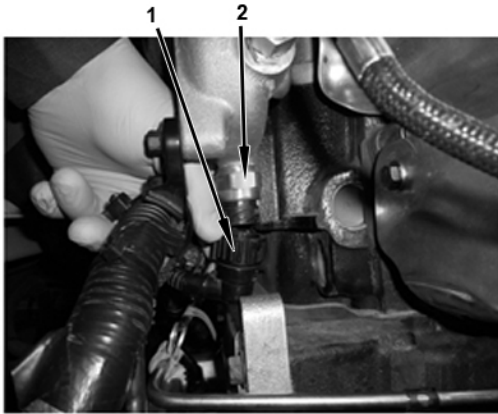

Figure 1 Engine Coolant Temperature Sensor
4. Disconnect engine coolant temperature (ECT) sensor (2) (Figure 1).